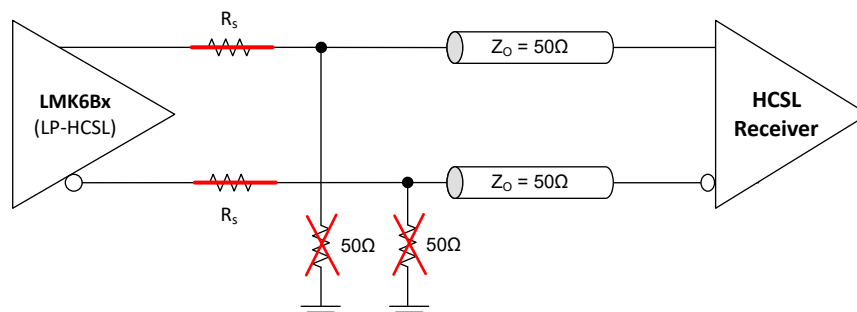

Figure 9-13. Replacing an HCSL Oscillator With the LMK6Bx
2. Depopulate any 50Ω resistors to GND as shown in Figure 9-13.
3. Replace any series resistors with 0Ω as shown in Figure 9-13.